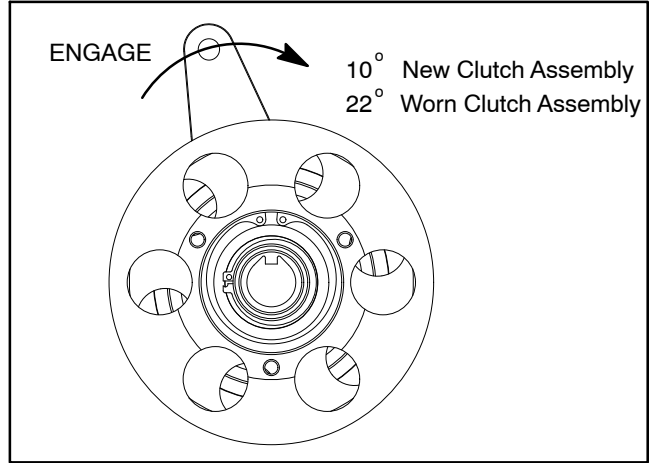

Figure 11
1. Measure rotation angle of clutch lever (Fig. 11). If lever can be rotated more than 22° , the clutch assembly is worn beyond adjustment and clutch replacement is necessary (see Transmission Clutch System – 1800/2100 in this Chapter).